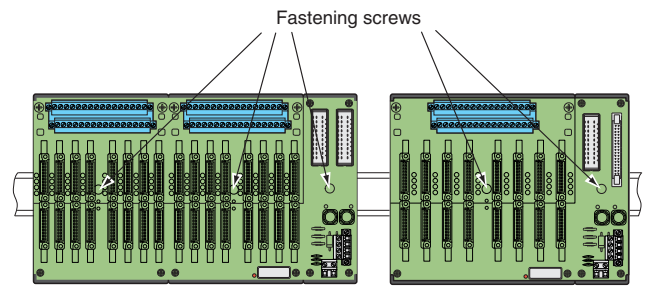

Figure 8 Top view of the H-System Termination Board
- Tighten the fastening screws (Figure 8).